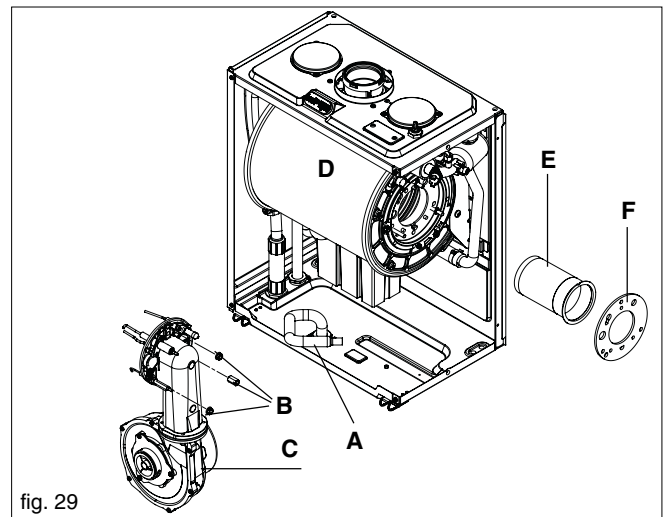

fig. 29
Carry out component removal procedure as described in 6.4. Unclip and remove the air chamber front and the RH side covers. Slacken the gas pipe (A) at the air box connection and swing/rotate of the fan assembly. Locate and remove the 3 internal nuts (B) which secure the fan assembly in position (C) to the heat exchanger (D). Disconnect the electrode leads and ancillary wiring from their respective connectors. Remove the retaining screws (A, fig. 29) for sensing electrode and remove. Remove the retaining nut (C, fig. 29) for condense sensor (D, fig. 29) and remove. Gently ease the fan assembly out of its location. Once the assembly has been removed, the burner (E) can be withdrawn from the heat engine. Ensure the seal (F) is in good condition, taking care to ensure it is replaced correctly. Replace in the reverse order.
Carry out component removal procedure as described in 6.4. Unclip and remove the three air chamber covers (front, LH, RH sides). Disconnect all the wiring connections. **Fig. 29:** Slacken the gas pipe **(A)** at the air box connection and swing/rotate of the fan assembly. Disconnect the flow **(B)**, return **(C)** and condense connections on the heat exchanger. Locate and remove the 4-screws that secure the heat exchanger to the combustion chamber **(D)**. Move the heat exchanger to the right and disconnect it from the flue collector **(E)**. The heat exchanger can now be lifted up and withdrawn from the appliance.